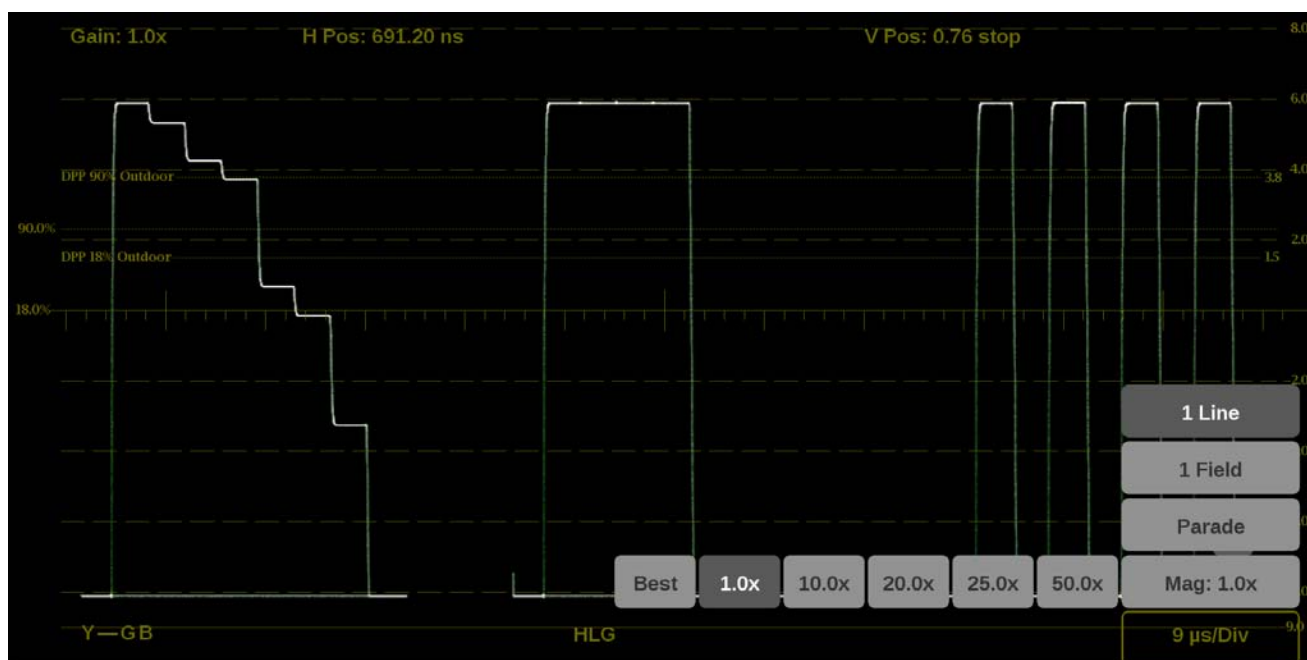

Figure 88: Stop Display on-screen tools – display format
1. Touch the button in the bottom right corner of the application to expand the available display format options. (See Figure 88.)